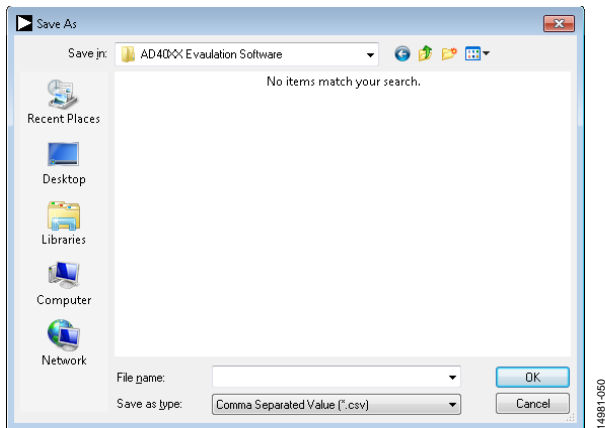

Figure 19. Save Dialog Box
- **Save Captured Data** allows the user to save the current captured data for later analysis, and the file format is .csv. The user is prompted to choose or enter the path of the file in the Save As pop-up (see Figure 19); save to an appropriate folder location.